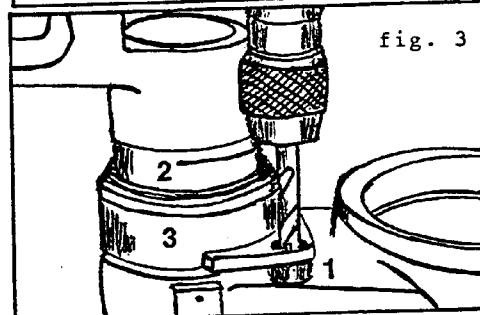

fig. 3
3. Fit the half shells (Items 1 & 2 fig. 3) on the rock shaft and secure with the wearing ring (Item 3 fig. 3). Align the fixed half shell (Item 1) in the center of the rock, and slightly drill holes to mark the bolt pattern. Use a 13.5 mm (17/32) drill bit.